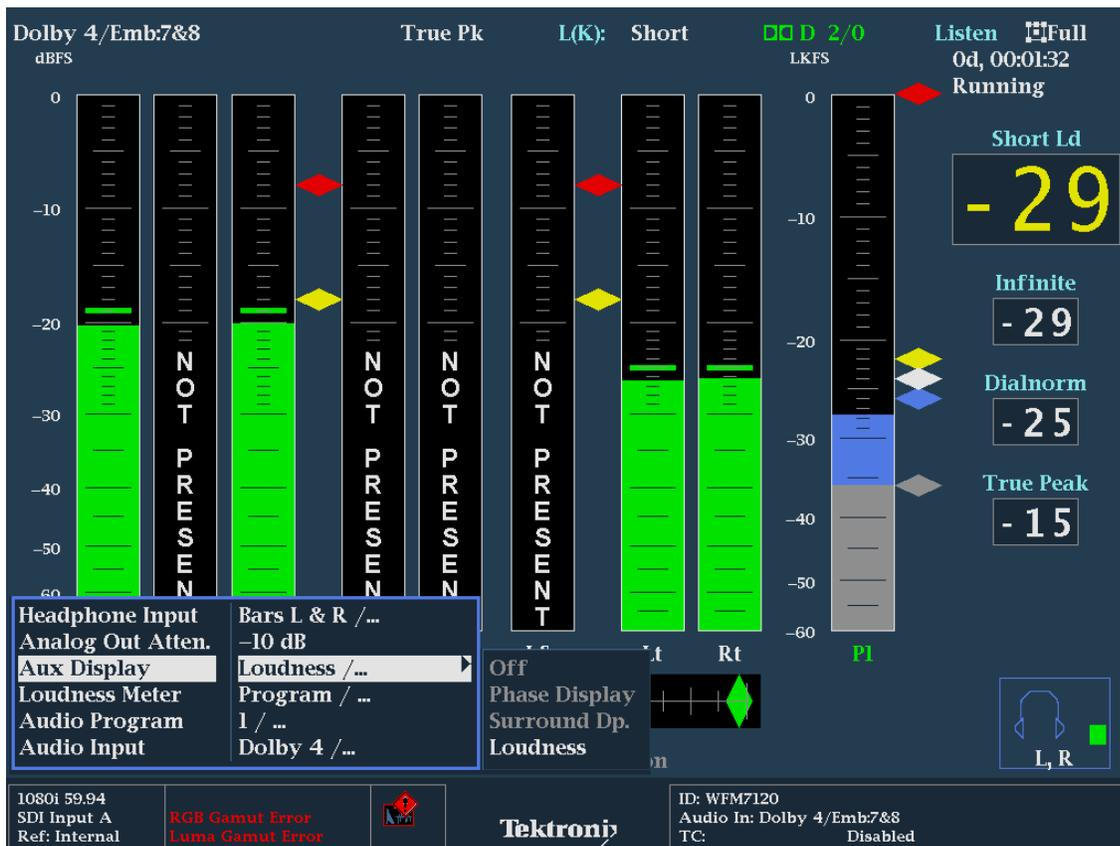

Figure 4. Loudness Readouts within Audio Display.
A user may specifically be interested in the Loudness measurements made by the instruments and to be able to quickly read the values within the audio display. To configure this display as shown in Figure 4 perform the following operations.
5. Enter the sub menu by pressing **SEL** and navigate to the **Loudness** selection (Figure 4)